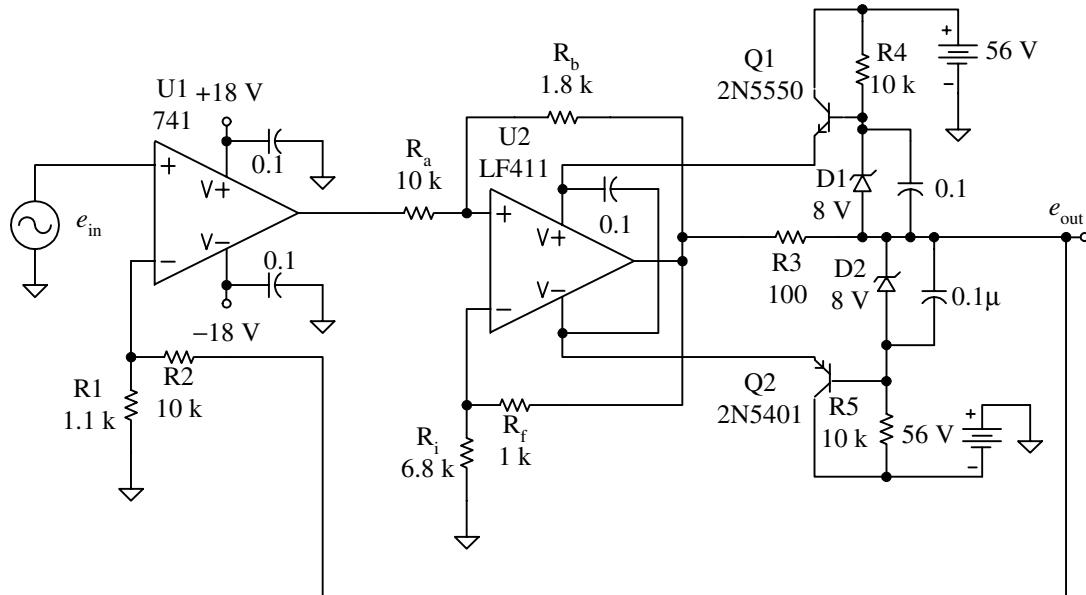

Figure 1-34 Complete high voltage, suspended supply, composite amplifier
Figure 1-34 is a complete schematic of the composite amplifier, using a 741 for the output amplifier, a LF411 for the high voltage inner amplifier, and the suspended supply.
- 1-19** For the circuit in Figure 1-34, calculate the current through each component and the voltage at each node, for a 3.5 V_{dc} input. For dc inputs you may ignore all capacitors and assume that the drop across R3 is 0 V.